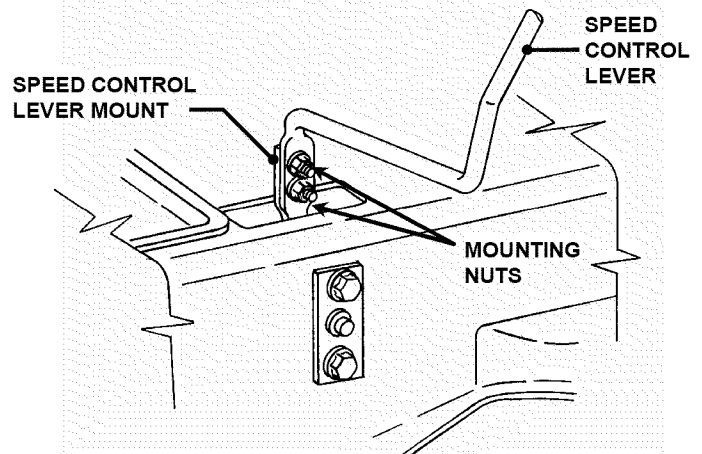

FIGURE 4.10
3. Locate speed control lever mount behind right rear tire. See Figure 4.10.